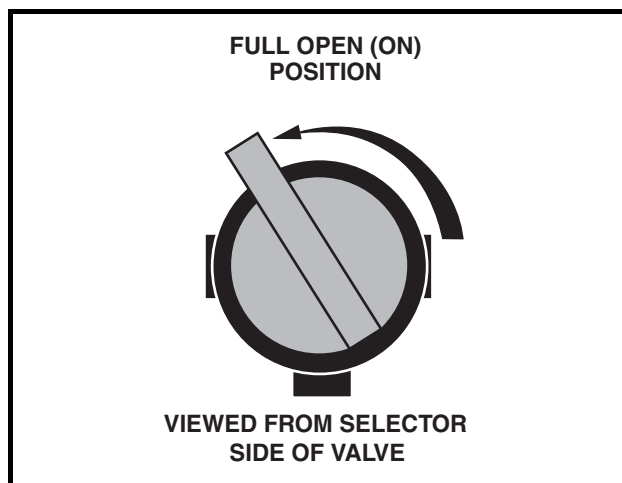
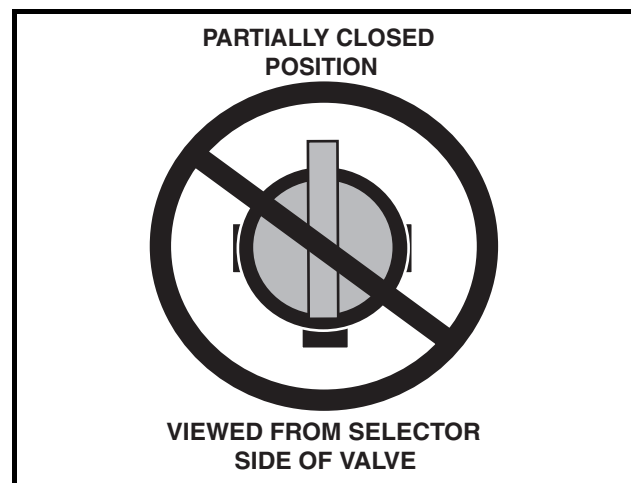

Figure 21 Fuel Shut-off Valve – Open Position
Figure 22 Fuel Shut-off Valve – Partially Closed Position
3. Completely open the fuel shut-off valve (**Figure 21**). Make sure the valve is fully open. A partially closed fuel shut-off valve (**Figure 22**) combined with the use of the choke can result in a fouled spark plug and engine failure.